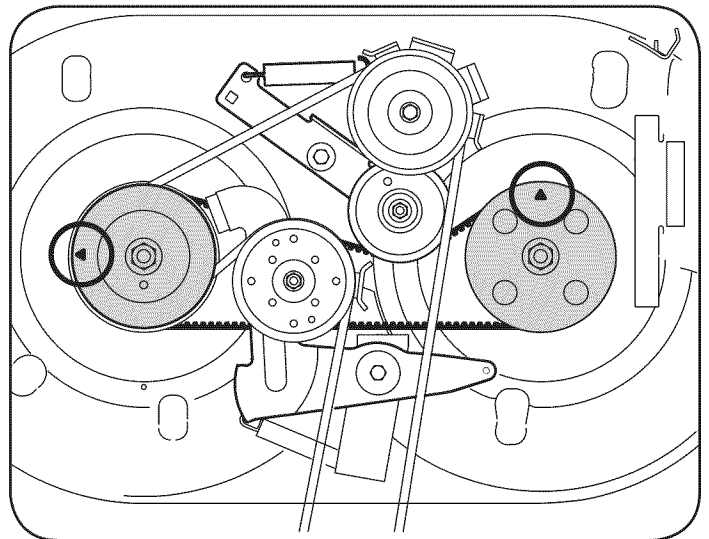

Figure 21
2. The top of each spindle pulley is marked with an arrow. See Figure 21. The arrows should be perpendicular (at a 90° angle) to each other.